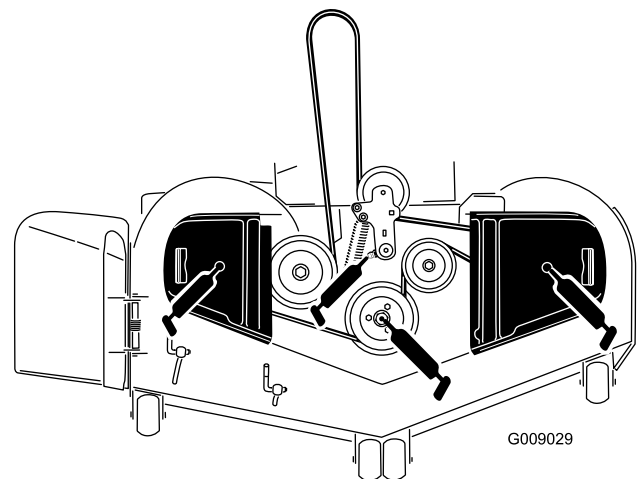

Figure 40
3. Grease the mower deck idler pulley pivot until grease come out the bottom (Figure 40).
4. Grease the fittings on the side of the 3 spindle bearings until grease comes out the bottom (Figure 40).
5. Grease the drive belt idler arm (Figure 40).